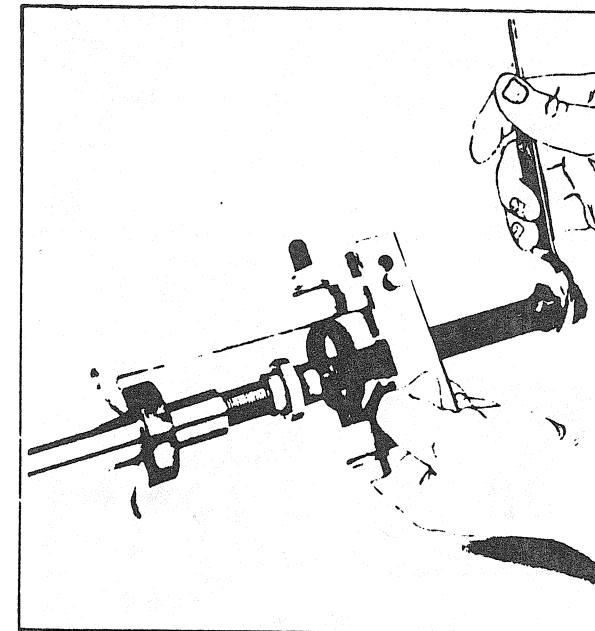

FIGURE 25
- Using a bearing puller, remove the bearing, gasket and sleeve from the impeller shaft; bearing must always be pulled by the inner race (fig. 25).